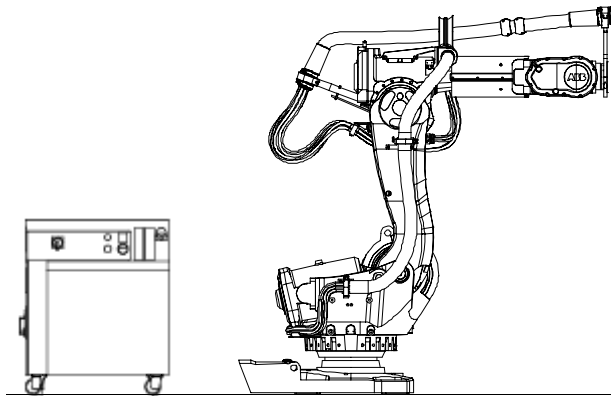

Figure 55 DressPack Type H for IRB 6600/6650/7600 main modules.
Variant Type H is designed for material handling (MH) application. Included modules are shown in Figure 55. Available configurations with linked option numbers are described below.